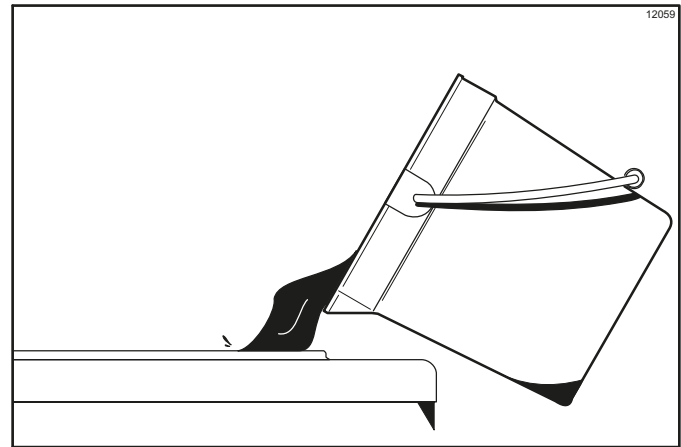

Figure 6-36
1. Pour 2 gal. (7.6 L) of cool, clean water into the mix hopper. With the white hopper brush, scrub the mix hopper and the mix-level sensing probe. Using the double-ended brush, brush clean the mix inlet hole. (See Figure 6-36.)